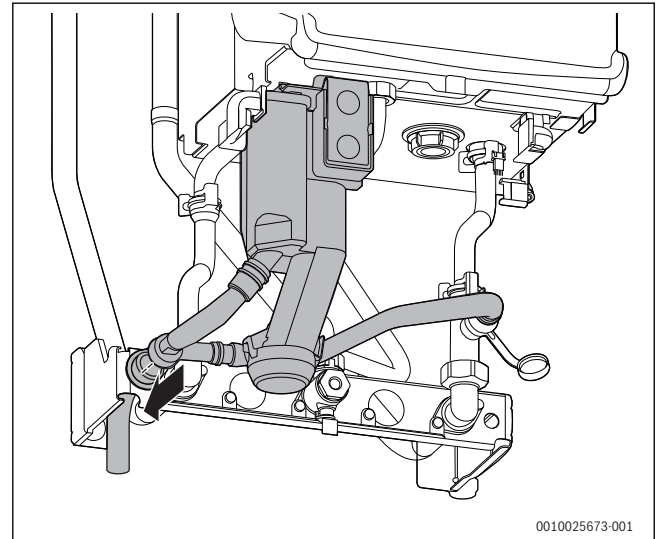

Fig. 47 Condensate connection
- ▶ Refer to Fig. 47, condensate connection: